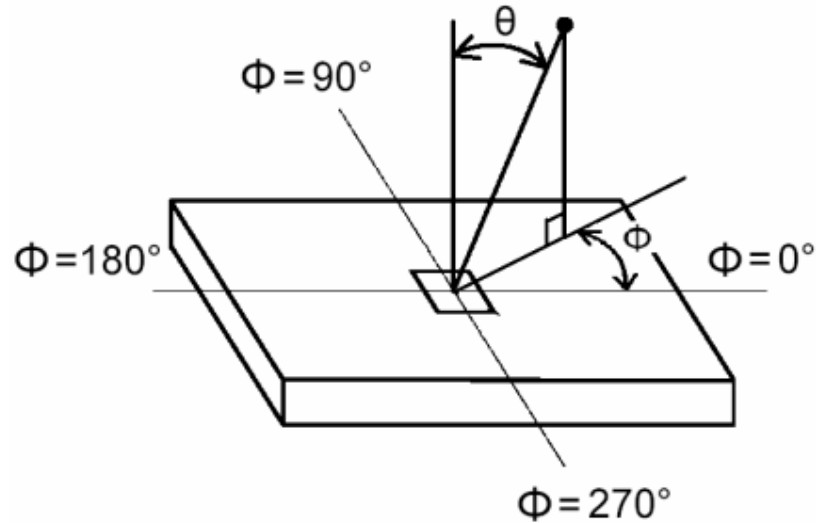

Fig.4-5 Viewing Angle Definition
5. Viewing angle is the angle at which the contrast ratio is greater than 10. The angles are determined for the horizontal or x axis and the vertical or y axis with respect to the z axis which is normal to the LCD surface. For more information see FIG 4-5.